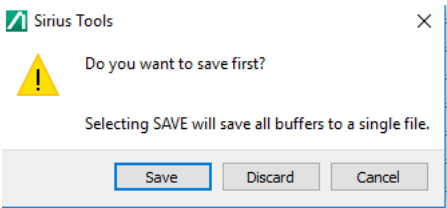

Figure 2-13. Clear History Dialog
- 1. Click Clear History will display the dialog shown in Figure 2-13.